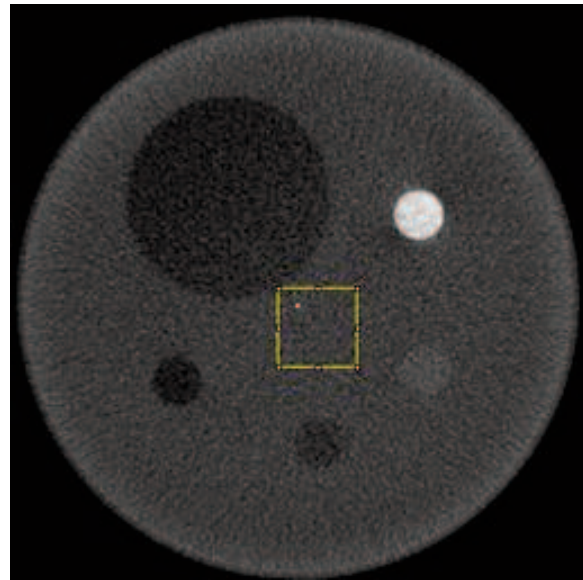

Figure 17.7-2: ROI for MTF measurement
1. View the reconstructed images of Insert 2 using a WW = 500 and WL = 150. The 50 μm tungsten wire should appear as a white dot at the center of the phantom. Place an ROI of approximately 24 mm by 24 mm to cover the wire and the surrounding background such that only the wire and background material are in the ROI (see Figure 17.7-2).